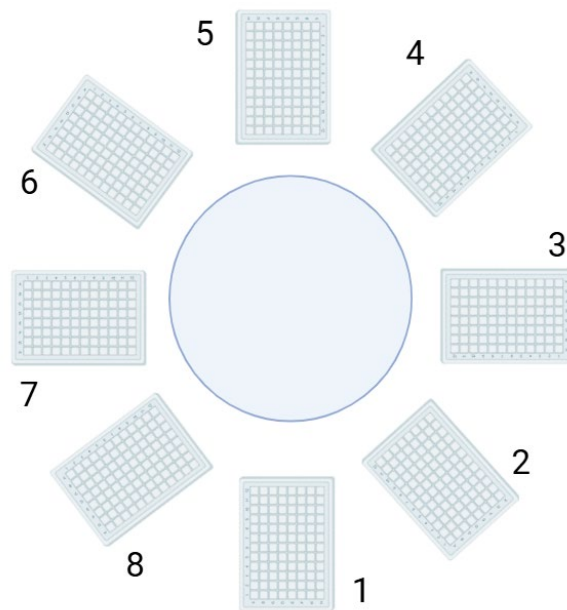

Fig. 1: Arrangement of the Plates in the device
1. Switch on PurePrep Maxi and place the plates on the working table of the extraction device according to Fig.1.